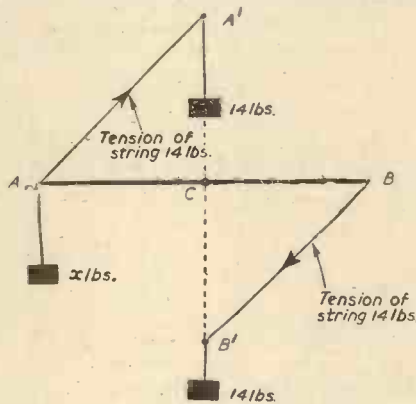

Fig. 1.—The pivoted rod.
*The Problem.*—A uniform rod 3ft. long is smoothly pivoted on a fixed horizontal peg at its centre C (Fig. 1). Strings attached to its ends A and B pass respectively through fixed smooth rings A' and B' and carry weights of 14lb. each; A' is vertically above C and B' vertically below C, each being 18in. from C. A weight of xlb. is hung on the rod at A. Show